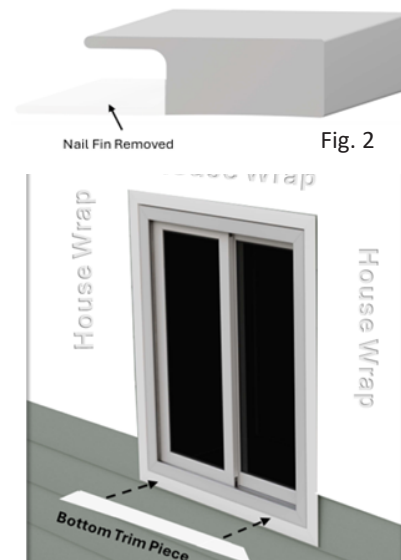

Fig. 4
4. Install the bottom trim last after installation of Everlast siding panel (Fig 4).